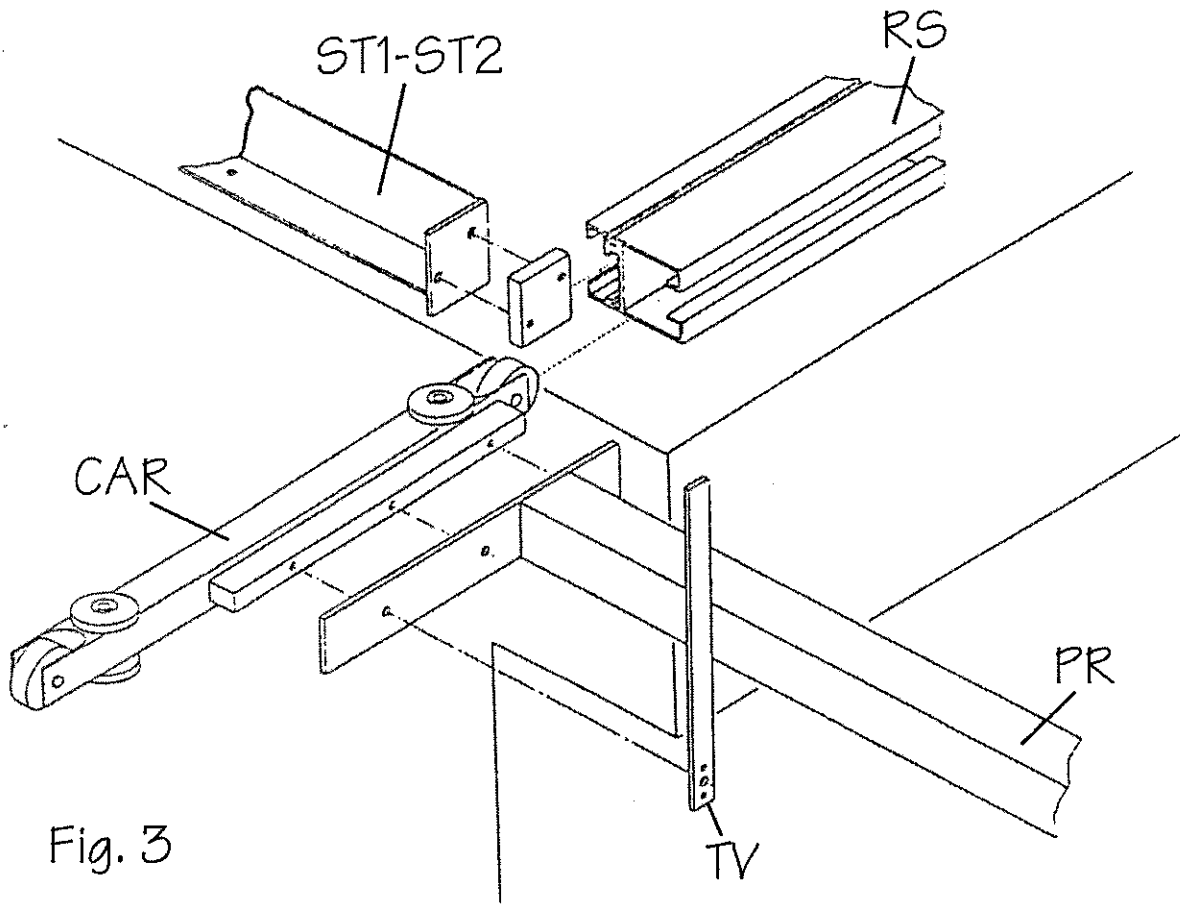

Fig. 3
- 2) Insert the cart (CAR) inside the rail (RS) directing the long part in direction of the command side (P1). Then install the two blocks that are necessary to stop the cart inside the rail at the two extremity of the rail Fig. 3
- 3) Fix the bracket (ST3-ST4) on the top rail (RS) using the furnished screws, fix the stainless steel rope in one bracket closing its extremity with the furnished clamp. Keeping the other side of the rope free, insert the galvanized rings, then screw the tie rod in the second bracket and fix the second side of the rope. Act on the tie rod to tight the rope. Fix the electric cable CE to the galvanized rings and to the plate TV using the colrings.
- 4) Fix the extension (PR) and the rope tightener (TV) to the cart inside the top rail directing the rope tightener in up position and fixing it in the middle hole. Fig 3